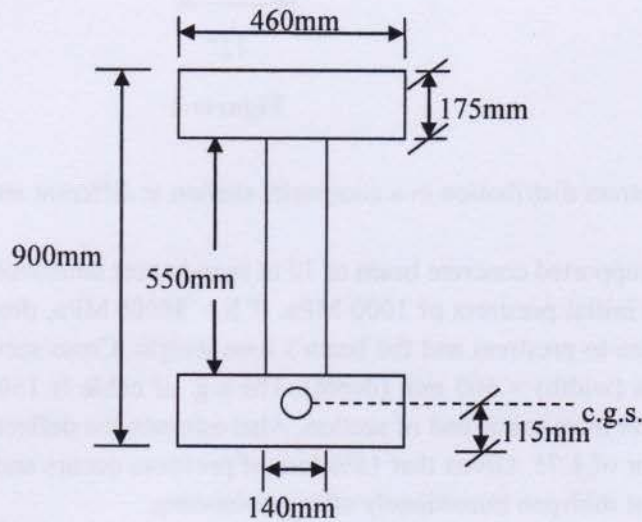

Figure: 1
1. (a) A symmetric I-shaped beam as shown in **Figure 1** is prestressed with $A_{ps} = 2350 \text{ mm}^2$ (20) as prestressing steel with an effective stress f_{se} of 1100 MPa. The c.g.s. of the strands is 115 mm above from the bottom of the beam. Determine the ultimate moment of the section using strain compatibility method (moment curvature analysis).
b. Determine effective length for column (**BC, EF and GH**) of the frame shown in **Fig.1** [13]